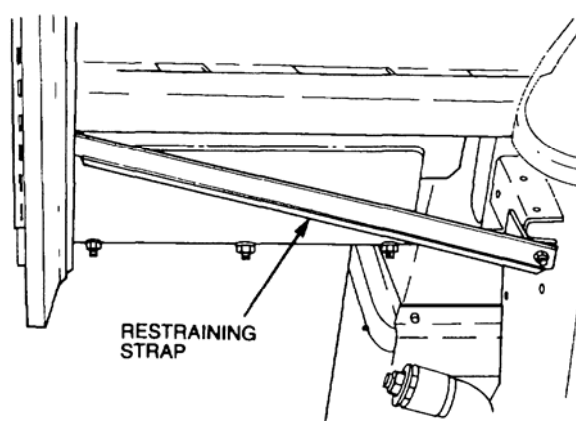

Figure 19 Removal of the Body Restraining Strap
- vv. Remove the bolts securing the rear body restraining straps (Figure 19) to the chassis.
- i.** Install the nuts, washers and bolts retaining the rear body restraining stays (Figure 19).